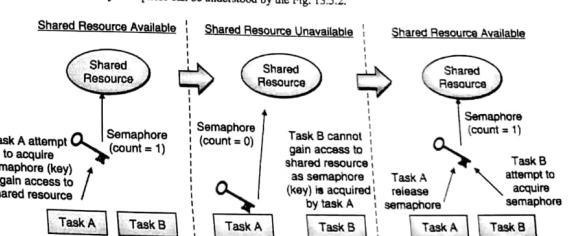

Fig. 13.5.2 : Binary semaphore
The operation of a binary semaphore can be understood by the Fig. 13.5.2.
- As shown in the Fig. 13.5.2, initially the key for the shared resource is available, i.e. count = '1'. Task 'A' attempts to acquire this and gets the same. Now task 'B' needs the same shared resource, but finds the key is not available i.e. count = '0' and hence doesn't get the resource. Once task 'A' completes its requirement of the shared resource, it releases the shared resource by releasing the key and then task 'B' gets the same.